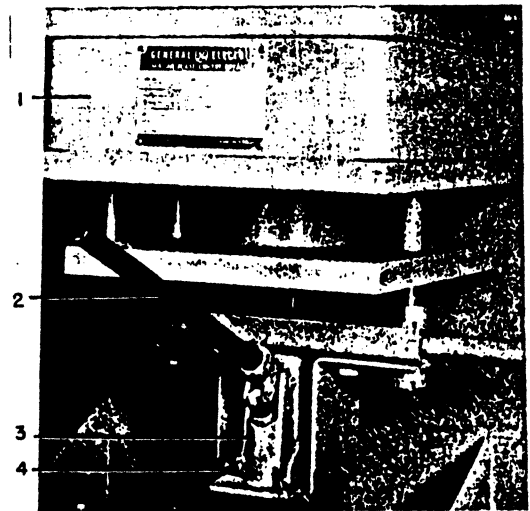

Figure 1. (8022396) Method of Mounting Maintenance Operating Device
2. Operate the breaker manually using the maintenance closing device provided with the breaker. Mount the device as shown in Figure 1 and turn the release valve (4) firmly to the right. To close the breaker, operate the handle (2) with a pumping motion. By turning the release valve (4) to the left, the closing armature will return to its normal position. Electrical operation must not be attempted until the breaker has been operated manually through its complete stroke several times and final installation inspection has been completed.